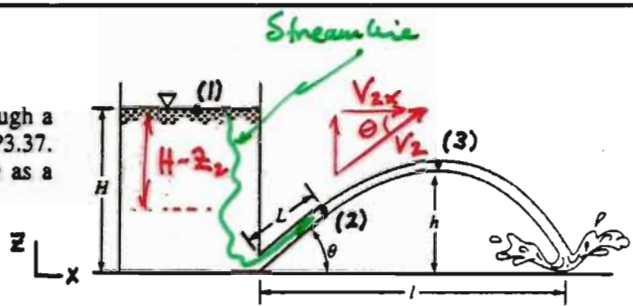

FIGURE P3.37
3.37 Water flows from a large tank of depth H , through a pipe of length L , and strikes the ground as shown in Fig. P3.37. Viscous effects are negligible. Determine the distance h as a function of θ .